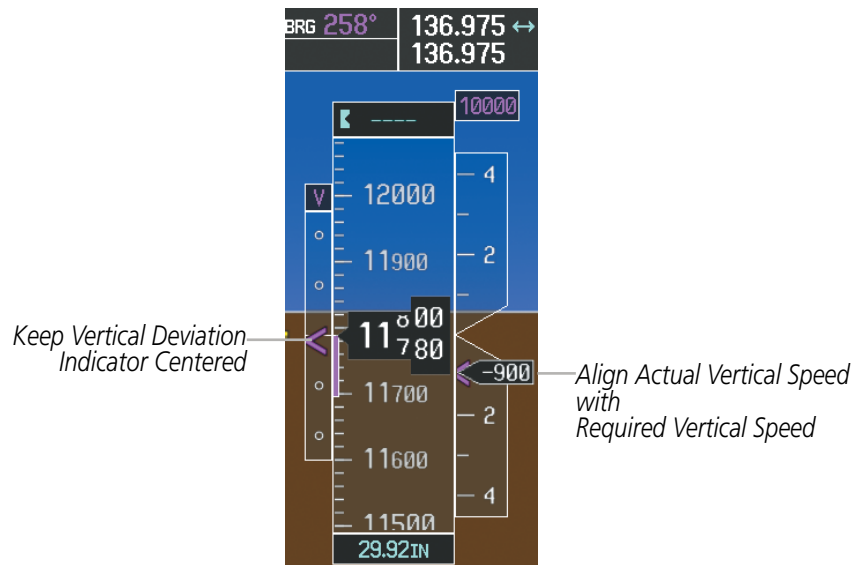

Figure 5-132 VDI & RVSI Showing Correctly Established Descent
- 16) Upon reaching TOD, a descent vertical speed is established which places the VSI pointer in line with the RVSI as shown in Figure 5-132.